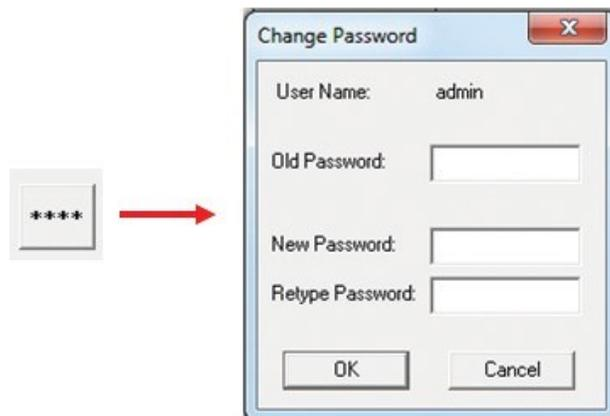

Figure 2. The Password button
1. It is recommended that the password be changed as soon as possible to ensure maximum security. To carry out this step, click on the 'Tools' tab and select the Password button (Figure 2).